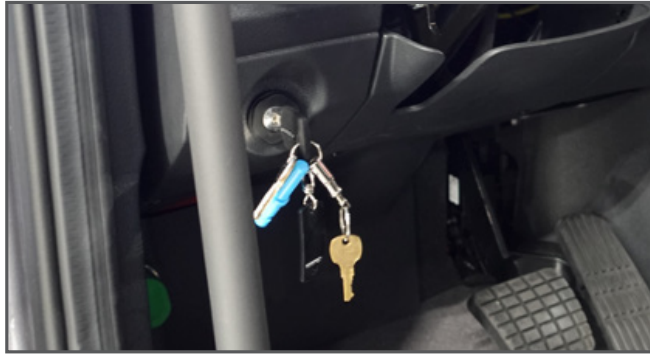

Figure 7. Ignition
4. Turn the ignition off (**Figure 7**).